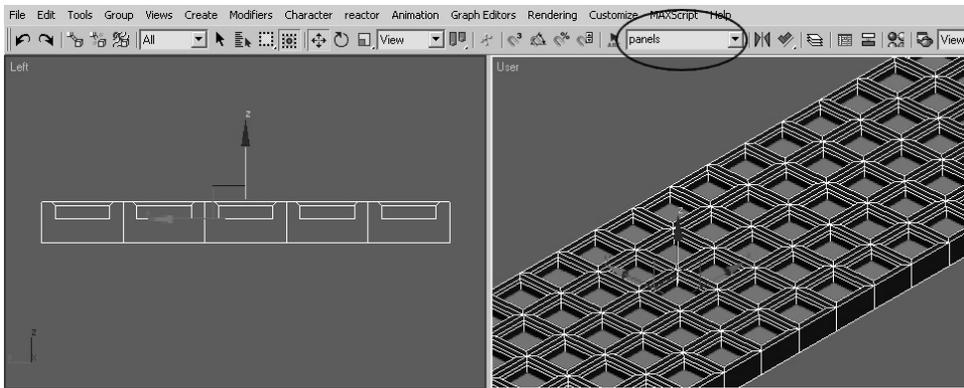

FIGURE 9.4 Extrude the selection by minus 4 inches and create a named selection set of the polygons for later use.
7. In the Edit Polygons rollout, click the Settings button for Extrude. Enter -4 in the Extrusion Height field, and press Enter for a deeper-set panel. Click OK. (See Figure 9.4). On the main toolbar, Named Selection Sets window, enter panels and press Enter. This makes it easier to reselect the panels if you need them later.